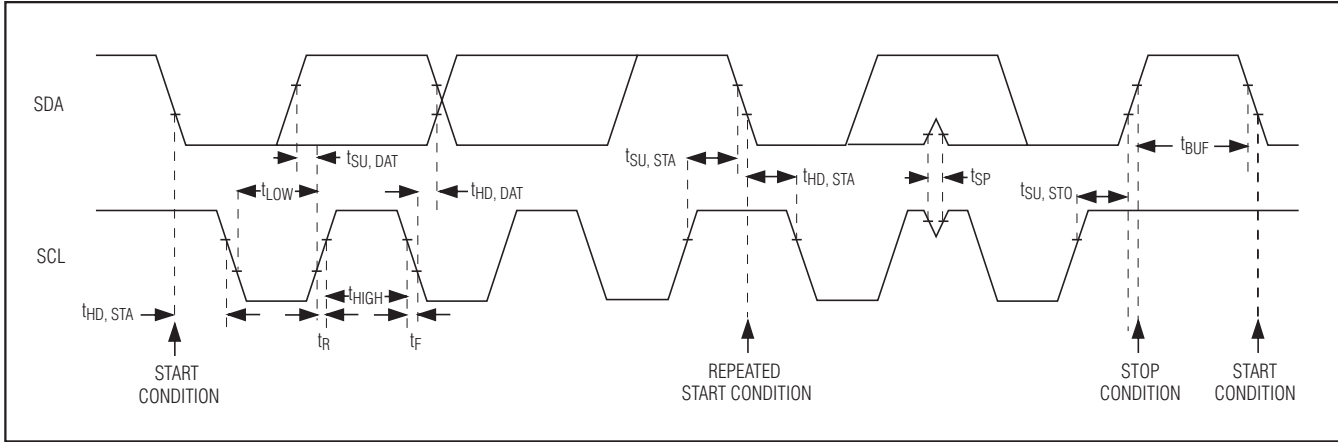

Figure 6. I2C Serial-Interface Timing Diagram
The MAX9670/MAX9671 feature an I2C/SMBus™-compatible, 2-wire serial interface consisting of a serial-data line (SDA) and a serial-clock line (SCL). SDA and SCL facilitate communication between the MAX9670/MAX9671 and the master at clock rates up to 400kHz. Figure 6 shows the 2-wire interface timing diagram. The master generates SCL and initiates data transfer on the bus. A master device writes data to the MAX9670/MAX9671 by transmitting a START (S) condition, the proper slave address with the R/W bit set to 0, followed by the register address and then the data word. Each transmit sequence is framed by a START and a STOP (P) condition. Each word transmitted to the MAX9670/MAX9671 is 8 bits long and is followed by an acknowledge clock pulse. A master reads from the MAX9670/MAX9671 by transmitting the slave address with the R/W bit set to 0, the register address of the register to be read, a REPEATED START (Sr) condition, the slave address with the R/W bit set to 1, followed by a series of SCL pulses. The MAX9670/MAX9671 transmit data on SDA in sync with the master-generated SCL pulses. The master acknowledges receipt of each byte of data. Each read sequence is framed by a START or